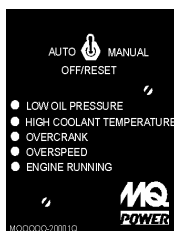

Figure 12. MPEC
10. **MPEC – Microprocessor Engine Control Module** – (MPEC) has a vertical row of status LED's (Figure 12), that when lit, indicate that an engine malfunction (fault), has been detected. When a fault has